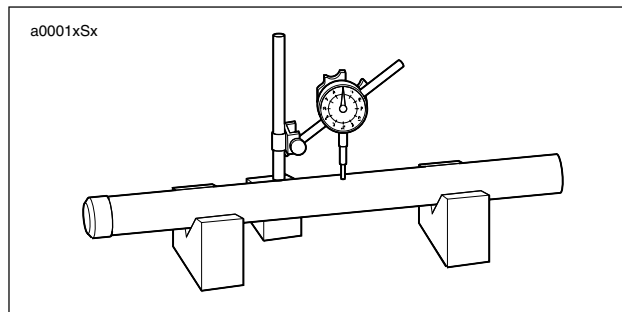

Figure 2-69. Pipe Runout
7. See Figure 2-69. Measure slide pipe runout. Replace pipe if runout exceeds the service wear limit of 0.008 in. (0.2 mm).